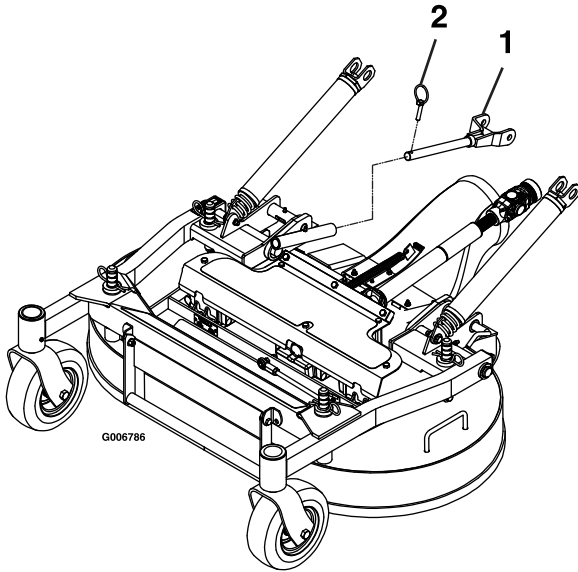

Figure 70
6. Remove the lynch pins at front of push arms on both sides of the machine (Figure 70).
5. Secure the push arms with the lynch pins on the left and right sides of the machine (Figure 70).